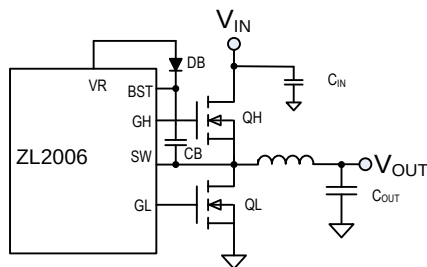

Figure 6. Synchronous Buck Converter
Figure 6 illustrates the basic synchronous buck converter topology showing the primary power train components. This converter is also called a step-down converter, as the output voltage must always be lower than the input voltage. In its most simple configuration, the ZL2006 requires two external N-channel power MOSFETs, one for the top control MOSFET (QH) and one for the bottom synchronous MOSFET (QL). The amount of time that QH is on as a fraction of the total switching period is known as the duty cycle  $D$ , which is described by the following equation:
Typically, buck converters specify a maximum duty cycle that effectively limits the maximum output voltage that can be realized for a given input voltage. This duty cycle limit ensures that the lowside MOSFET is allowed to turn on for a minimum amount of time during each switching cycle, which enables the bootstrap capacitor (CB in Figure 6) to be charged up and provide adequate gate drive voltage for the high-side MOSFET. See Section 5.2, “High-side Driver Boost Circuit,” for more details.
The gate drive voltage for the high-side MOSFET driver is generated by a floating bootstrap capacitor, CB (see Figure 6). When the lower MOSFET (QL) is turned on, the SW node is pulled to ground and the capacitor is charged from the internal VR bias regulator through diode DB. When QL turns off and the upper MOSFET (QH) turns on, the SW node is pulled up to  $V_{\text{DD}}$  and the voltage on the bootstrap capacitor is boosted approximately 5 V above  $V_{\text{DD}}$  to provide the necessary voltage to power the high-side driver. A Schottky diode should be used for DB to help maximize the high-side drive supply voltage.